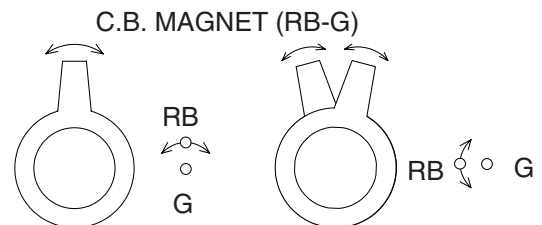

Fig. 8
3. Align red / blue with green dots at the center of the screen by rotating (RB-G) C.P. Magnet. (See Fig. 8.)